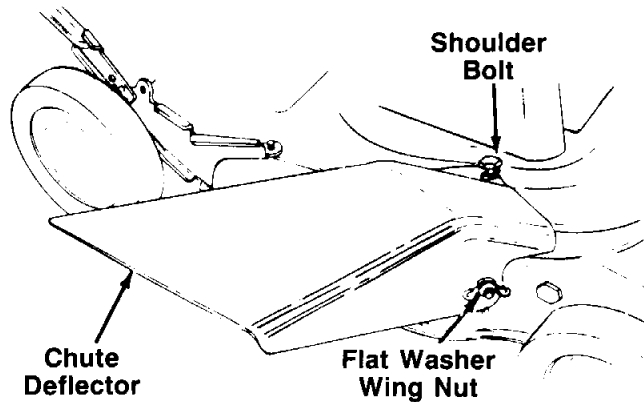

FIGURE 12.
2. Secure the front of the deflector to the bolt protruding from the deck with one flat washer and wing nut. See figure 12.